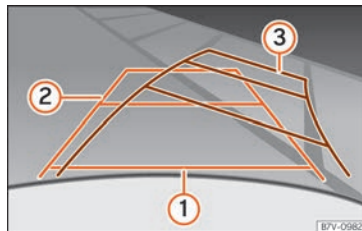

Fig. 276 Screen: orientation lines for the parking space behind the vehicle.
Meaning of orientation lines displayed on the screen »» **Fig. 276**. All of the lengths of the orientation lines use a vehicle located on a horizontal surface as reference.
- Reverse slowly and turn the steering wheel so that the yellow orientation lines guide you towards the space »» Fig. 276 ③.